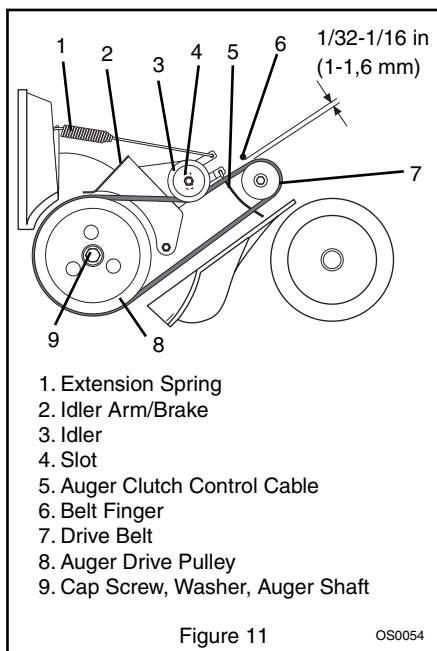

Figure 11
3. Disconnect extension spring on idler arm/ brake (Figure 11).